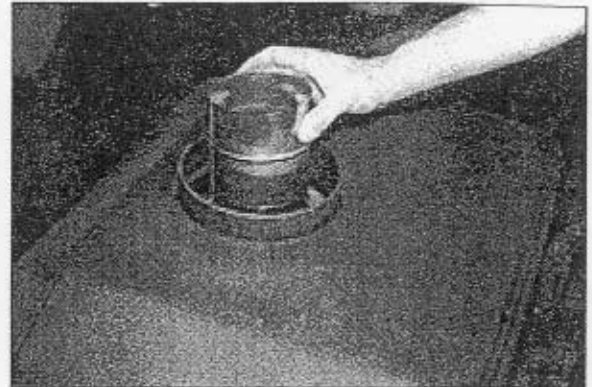

Figure 5A
2. Assembling Vent Sections. Only use vent supplied and listed for use with this appliance. Included with your Dovre DV750 is an inner flue extension. This extension must be connected to the top of the appliance before any other vent section is connected with the small hole to the top. This extension fits into the flue collar located on the appliance. See Figures 5A and 5B.